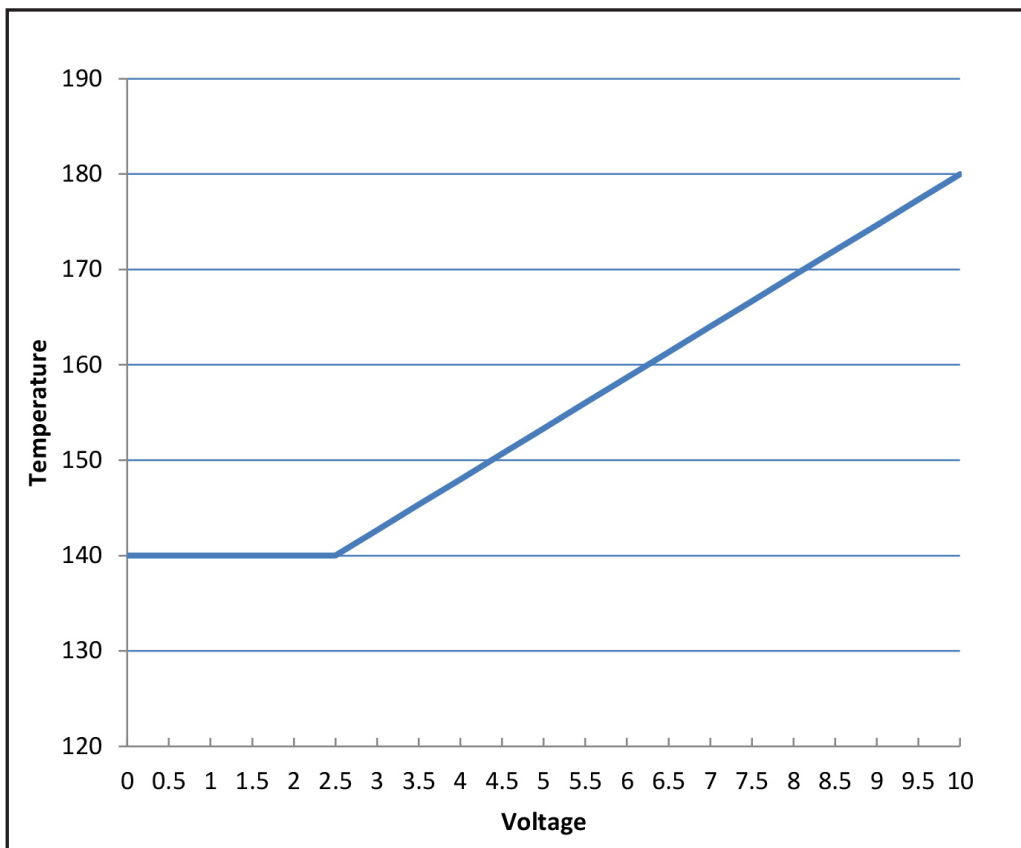

Figure 39. External Setp Point Example
- Using the default values for Boiler Max Set Point (180°F), Boiler Min Set Point (140°F), Demand Minimum (2.5VDC), Demand Maximum (10.0VDC), the unit will linearize the set point, as shown in **Figure 39**.